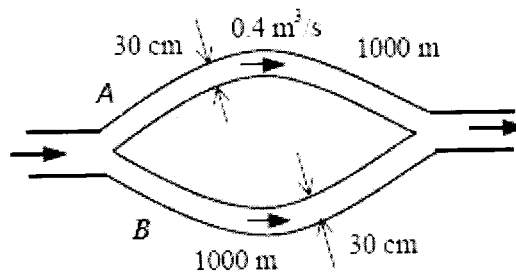

Figure Q2(b)
- (b) A certain part of cast iron piping of a water distribution system involves a parallel section. Both parallel pipes have a diameter of 30 cm and the flow is fully turbulent as shown in **Figure Q2(b)**. One of the branches (pipe A) is 1000 m long while the other branch (pipe B) is 3000 m long. If the flow rate through pipe A is $0.4 \text{ m}^3/\text{s}$, determine the flow rate through pipe B. Disregard minor losses and assume the water temperature to be 15°C .